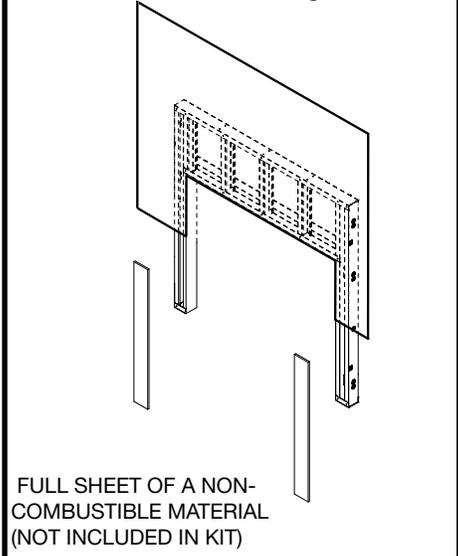

Figure 15: Non-combustible material.
If the backer board is not to be finished with other non-combustible material such as tiles, it is recommended that the instructions in (Figure 15) be followed closely.
**CAUTION: SEE (Figure 15) BEFORE PROCEEDING.**